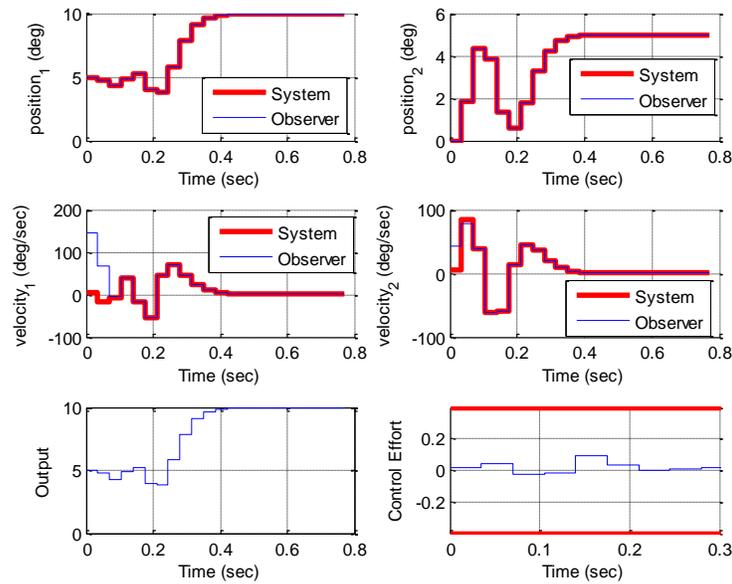

Figure 10. Results for problem 3e.
e) Same conditions as **d**, but the sampling interval is now 0.035. For a 10 degree step input you should get the graph shown in Figure 10. Turn in your plot